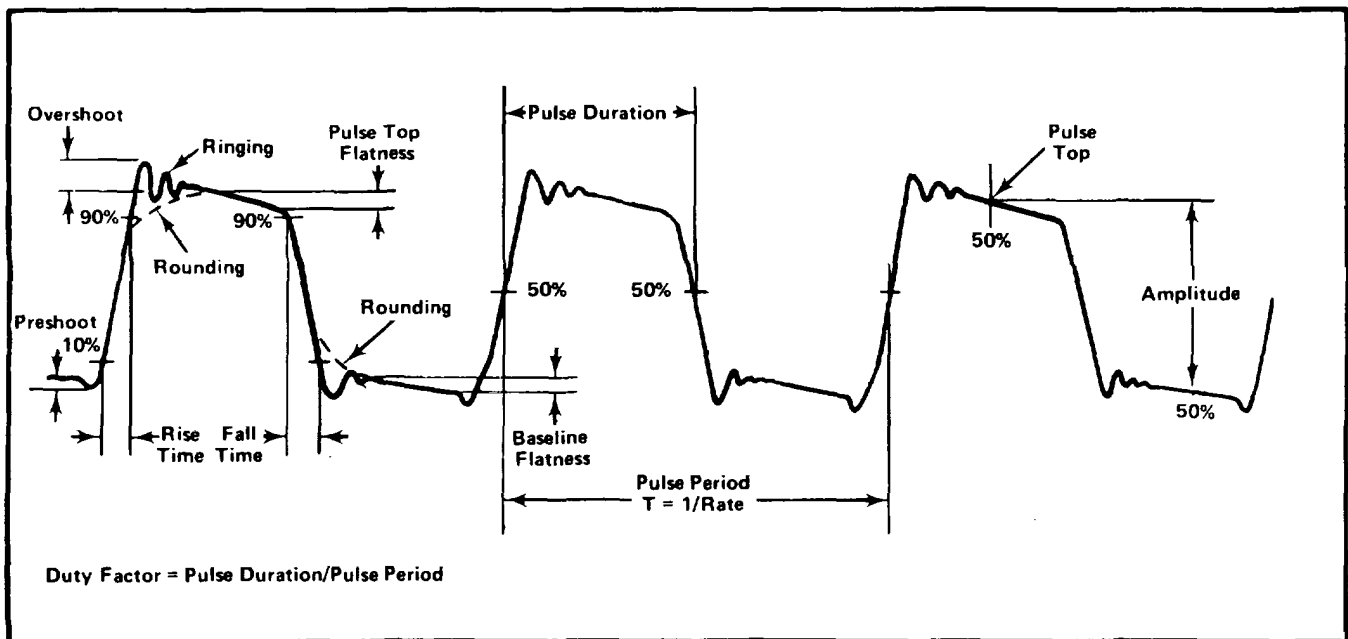

Fig. 1-8. Pulse characteristics .
**Definitions of Pulse Characteristics** The following is a glossary of common pulse characteristics used in this manual. They are illustrated in Fig. 1-8.